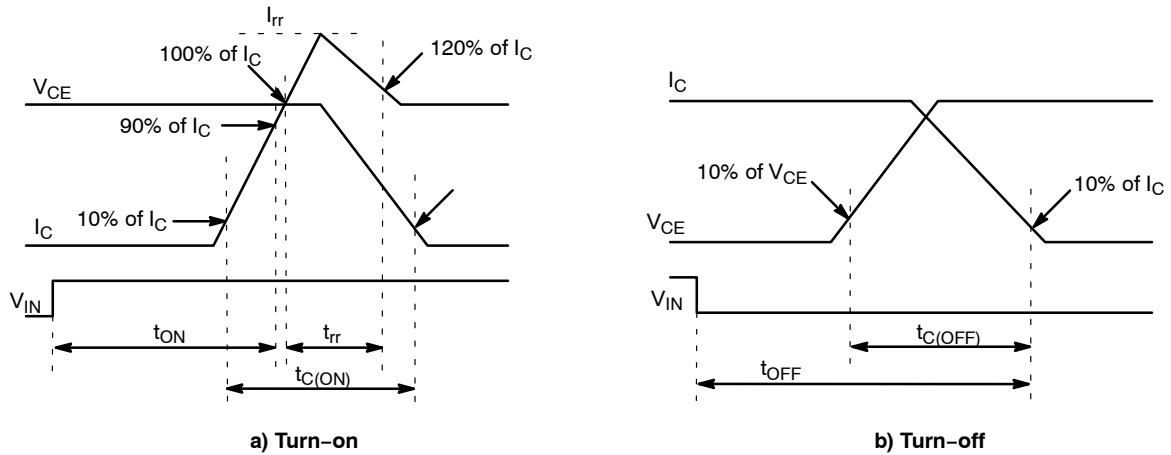

Figure 3. Switching Time Definition
4. t_{ON} and t_{OFF} include the propagation delay time of the internal drive IC. t_{C(ON)} and t_{C(OFF)} are the switching times of IGBT itself under the given gate driving condition internally. For the detailed information, please see Figure 3.